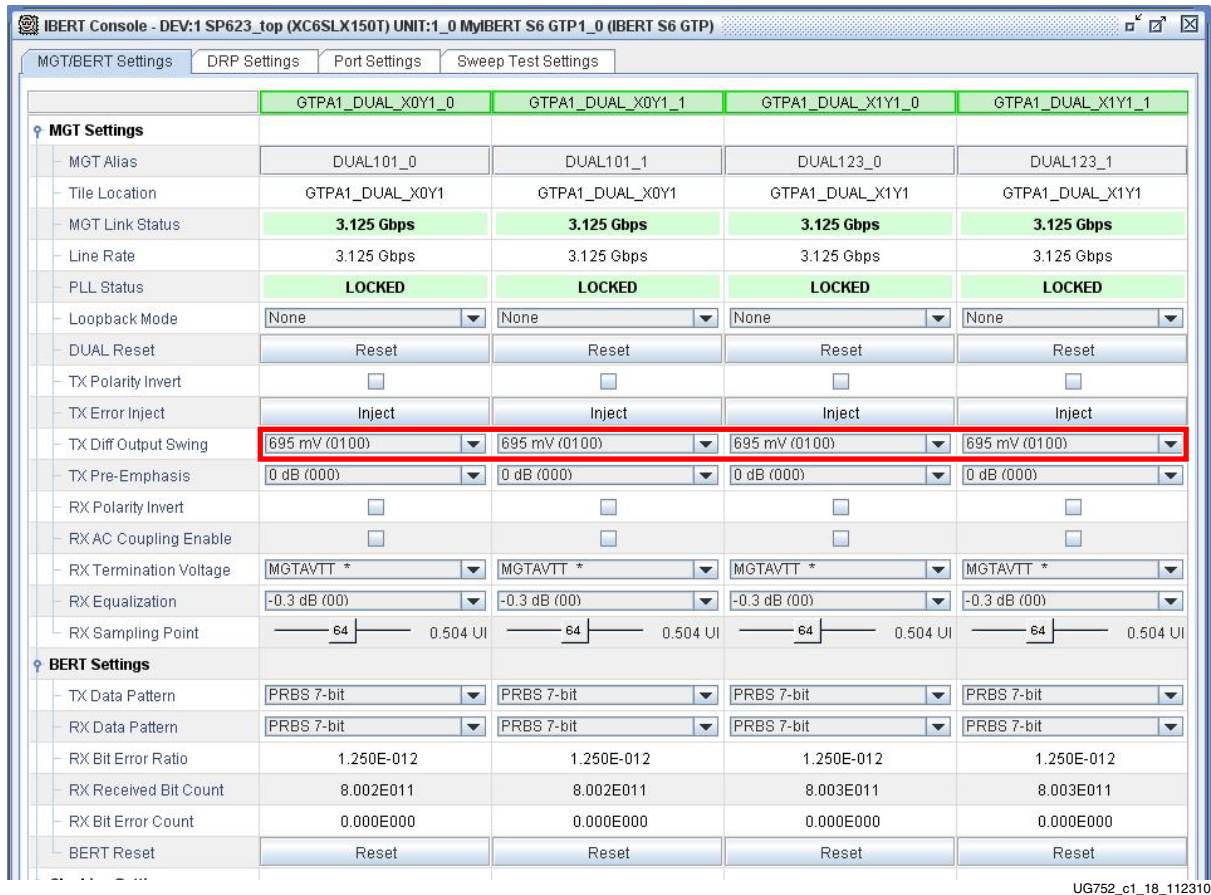

Figure 1-15: GTP Transceiver TX Differential Output Swing
- Note the GTP transmitter differential output swing is preset to 695 mV (0100) as shown in Figure 1-15.